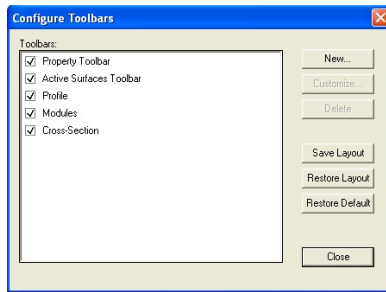

Figure 18-13. Configure Toolbars
1. Click **View ► Toolbar**. The *Configure Toolbars* dialog box appears (Figure 18-13 on page 18-16).